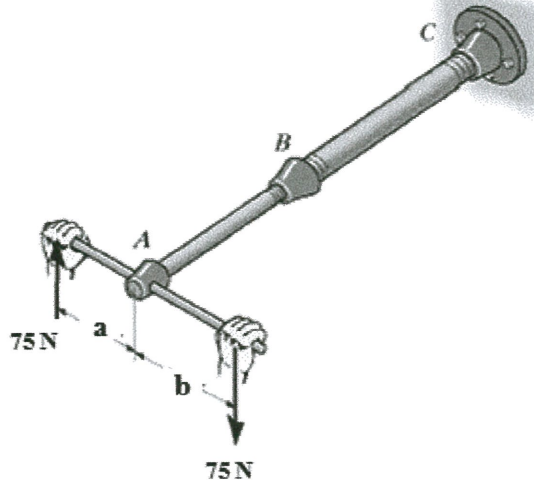

Figure Q3
- Q3.** The assembly shown in **Figure Q3** consists of two sections of steel pipe connected together using a reducing coupling at B. The smaller pipe has an outer diameter of 18.75 mm and an inner diameter of 17 mm, whereas the larger pipe has an outer diameter of 25 mm and an inner diameter of 21.5 mm. If the couple shown is applied to the handle of the wrench with given distance of $a = 150$ mm and $b = 200$ mm.